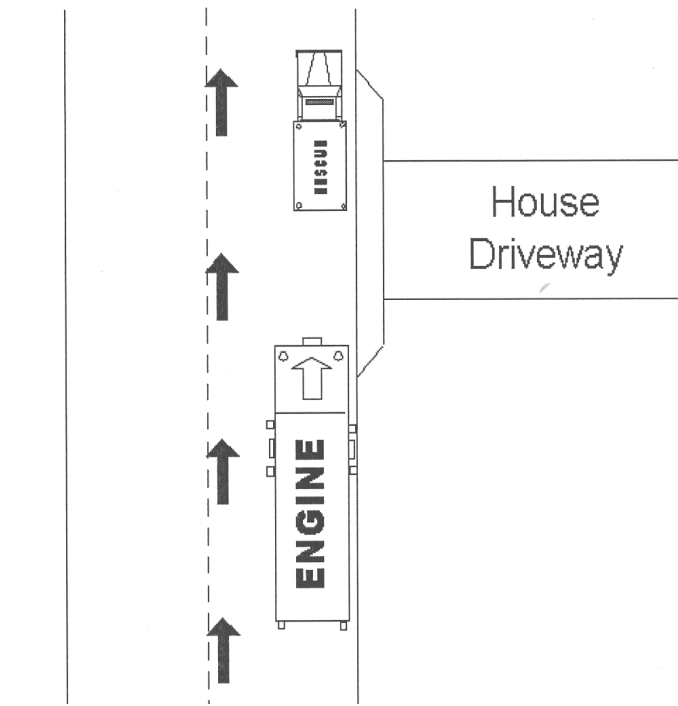

Figure 6
12. Once enough fire apparatus have “blocked” the scene, park or stage unneeded vehicles off the street whenever possible. Bring in ambulance/rescue companies one or two at a time and park them in safe locations on scene. This may be “down stream” from other parked apparatus, or the ambulance may be backed at an angle into a protected loading area to prevent working in or near passing traffic. At residential medical emergencies, park ambulance/rescue companies in driveways for safe loading where possible. If driveways are inaccessible, park Engine and Ambulance/Rescue companies to best protect patient loading areas (See Figures 6 and 7).